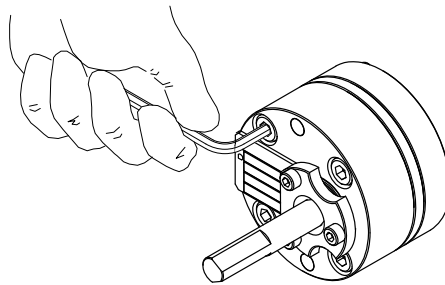

Figure 5-4 Tightening the pump screws
3. See Figure 5-4. Tighten the screws to 25 N•m (222 in.-lb).